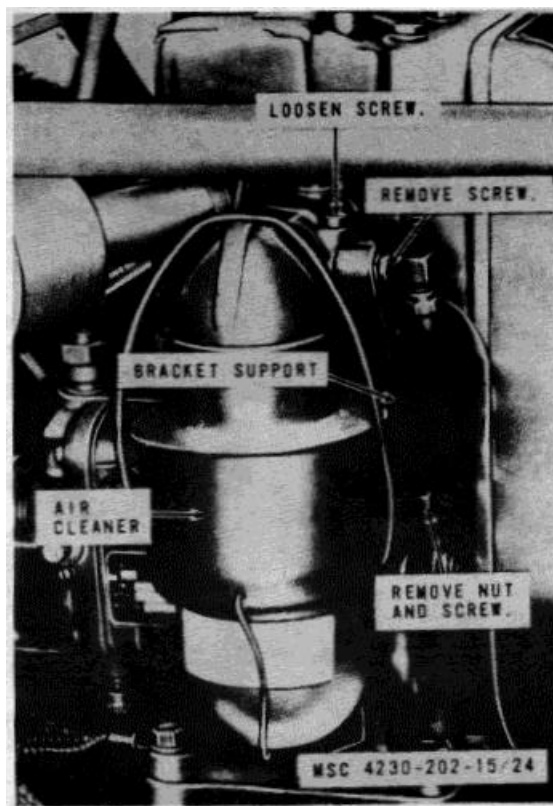

Figure 3-17. Air cleaner and bracket support, removal and installation
a. Removal and Installation. Refer to figure 3-17 and remove and install the air cleaner and bracket support